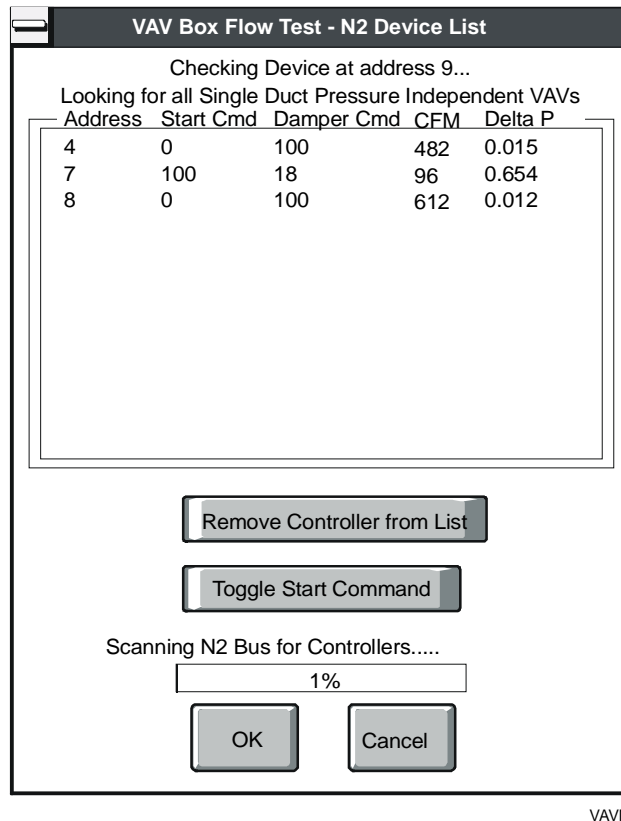

Figure 15-17: Multiple VAV Box Flow Tests - N2 Device List Window
5. Verify the communication port and starting N2 address, then click OK. HVAC PRO software searches the N2 Bus and displays a list of all single duct pressure independent VAV boxes connected to the N2 Bus (Figure 15-17).